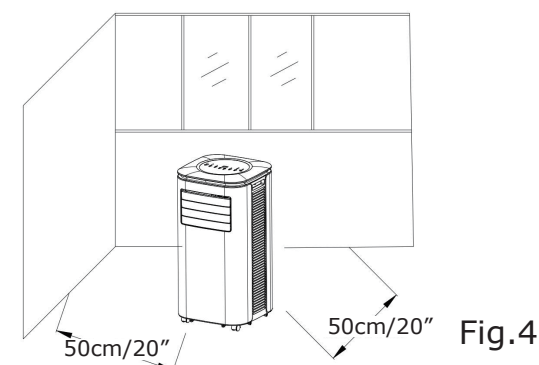

Fig.4
- 1) Move the machine with installed pipe and fittings to the window, and the distance between the body and walls or other objects shall be least 50cm/20" (as shown in Fig.4).